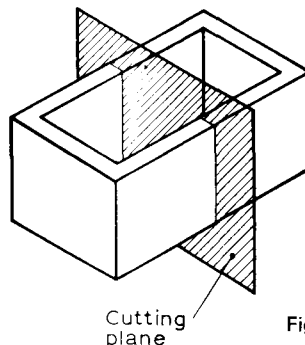
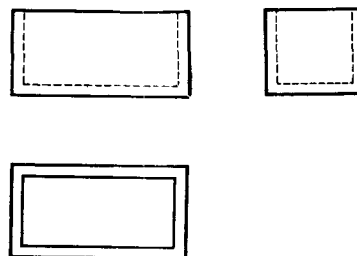

Fig. 3.37
Fig. 3.38
**Section views.** It is often found that the outside views of an object are inadequate for its clear description. Fig. 3.37 shows an open box. If this box is drawn orthographically (Fig. 3.38) the dotted lines show that the box has a bottom. On a complicated drawing this method